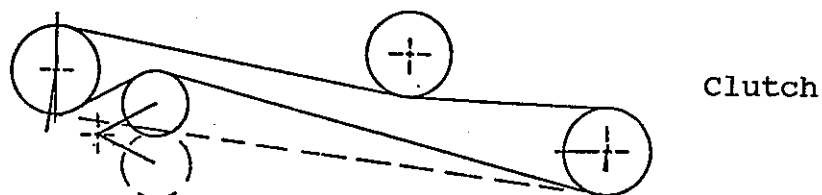

Fig. 3. Cutter Deck Drive Belt
3.5.7 Install cutter deck drive belt. First slip belt between clutch drive sheave and drive wheel release rod and make sure belt is in the sheave groove. Place the other end of the belt over cutter deck drive sheave and rotate this sheave for belt to slip into sheave groove. Next, pull idler assembly back to allow belt to engage idler sheave. Last, check fixed idler sheave to make sure belt travels in the idler sheave groove also. Replace the center cutter deck belt shield. See Figure 3.